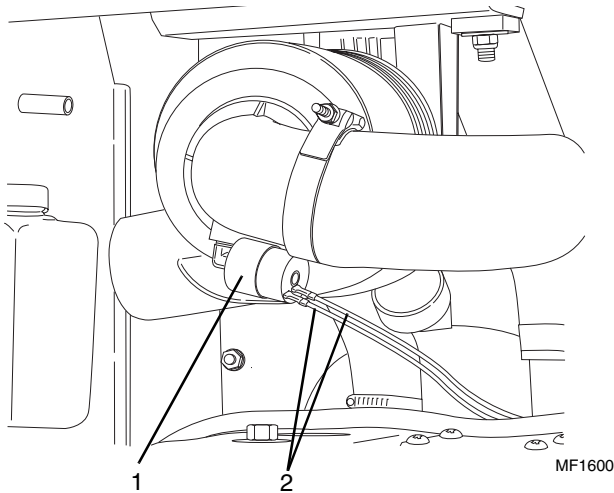

Figure 8-11 Air Restriction Indicator Switch
5. Test the air cleaner restriction switch (Fig. 8-11, 1) using an ohmmeter or continuity tester connected to the two switch terminals as follows: